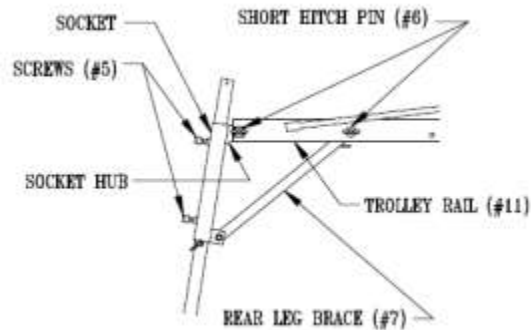

Figure 2
- e. Refer to Figure 2. Slide rear leg brace #7 into the rear of the trolley rail assembly #11